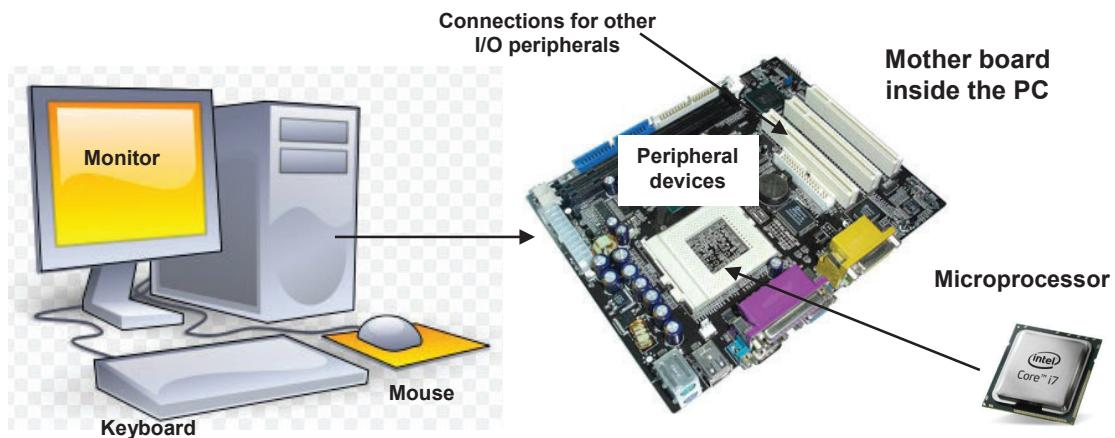

Figure 1.3 Microprocessor as part of a personal computer
Microprocessors are typically used in personal computers (PC) which are general purpose systems. Various programs running on them such as operating system, web browser, email software, word processor, spreadsheet, games makes them flexible to be used for a variety of purposes. On the other hand, microcontrollers are often used in dedicated systems designed for one task only such as a microwave oven or a coffee machine. The Figure 1.3 shows a desktop PC (Personal Computer) with the monitor as output and the keyboard and mouse as input units. A motherboard inside the PC hosts a